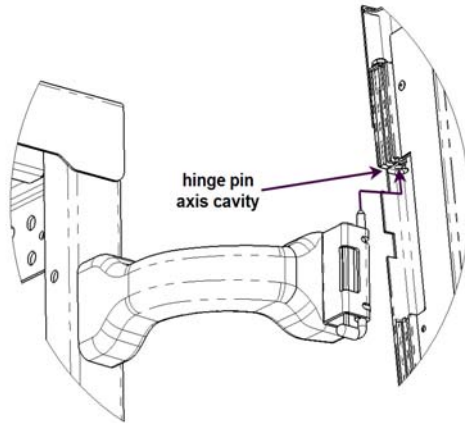

Fig. 2.3.3b Hinge pivot axis cavity
- Carefully lower the door onto the upper hinge pin. Be sure that the hinge pins align correctly with the hinge pivot axis cavity in the door frame (see Fig. 2.3.3b).